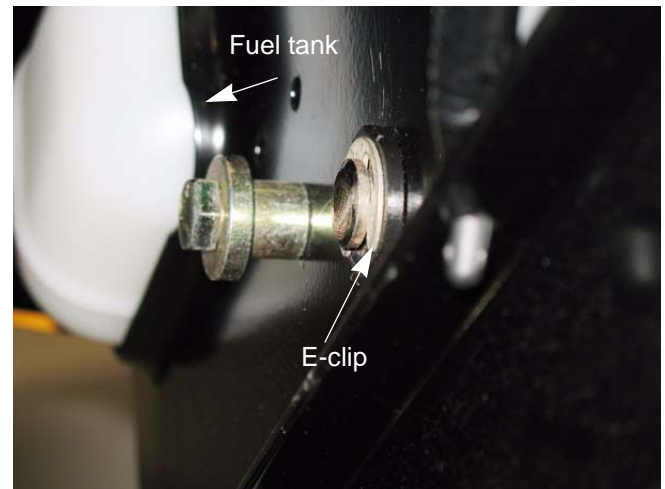

Figure 8.24
2. Remove the E-ring that retains the lift shaft bushing. See Figure 8.24.